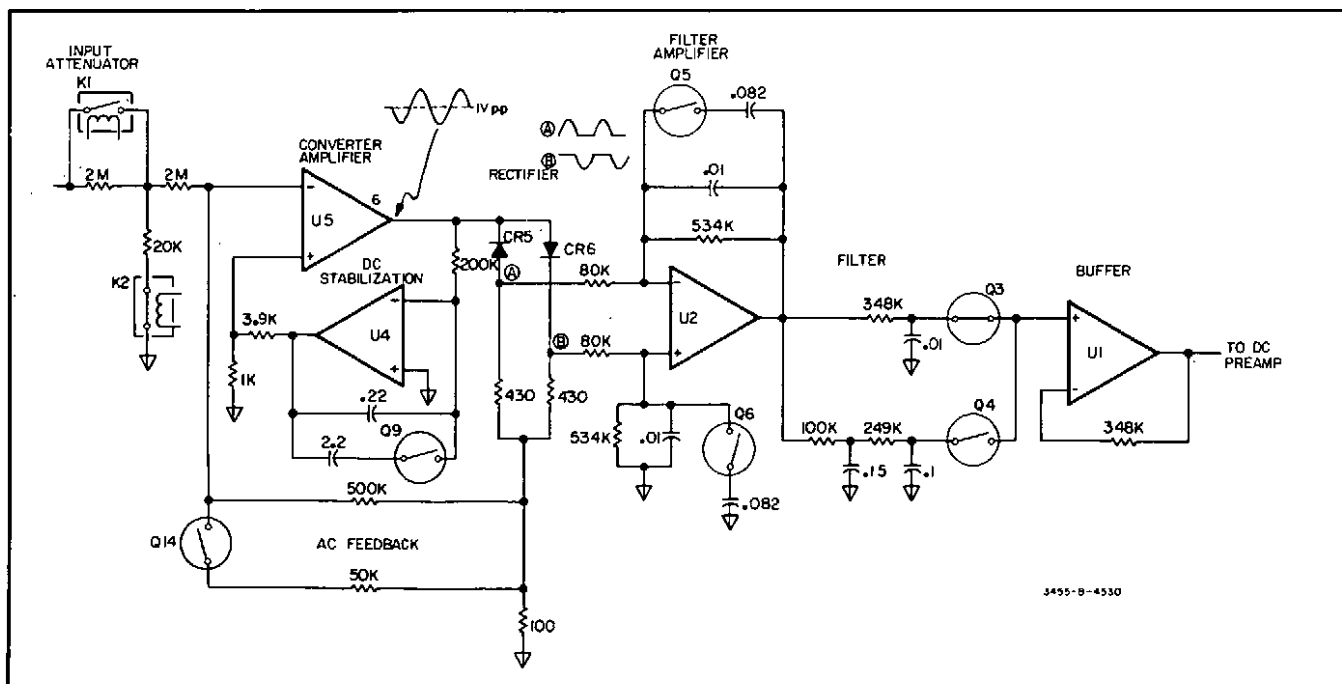

Figure 8-20. Simplified Average Responding AC Converter.
**8-58.** The average ac converter is an average responding circuit calibrated to the rms value of a sinusoidal input. Full scale output of the converter is 6.6667 V dc for all ranges. Figure 8-20 shows a simplified schematic of the converter.
**8-63. Rectifier and Filter Amplifier.** The output of the Converter Amplifier is applied to a rectifier circuit which produces both a positive going and a negative going half-wave rectified signal output (see Figure 8-20). The rectified signals are summed to provide ac feedback for the Converter Amplifier. The Filter Amplifier has a fixed gain of approximately 6.6. The feedback circuitry of the Filter Amplifier provides one pole of filtering. The output of the Filter Amplifier is applied to a one pole RC filter network for FAST ACV operation and a two pole RC filter network for ACV operation.